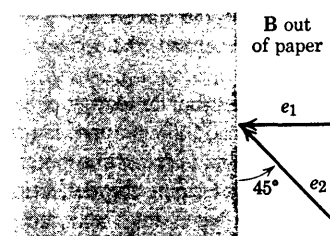

Figure 4.16
8. Two electrons, e_1 traveling at velocity u and e_2 traveling at velocity $2u$, enter an intense magnetic field directed out of the paper (Fig. 4.16). Sketch the paths of the electrons.